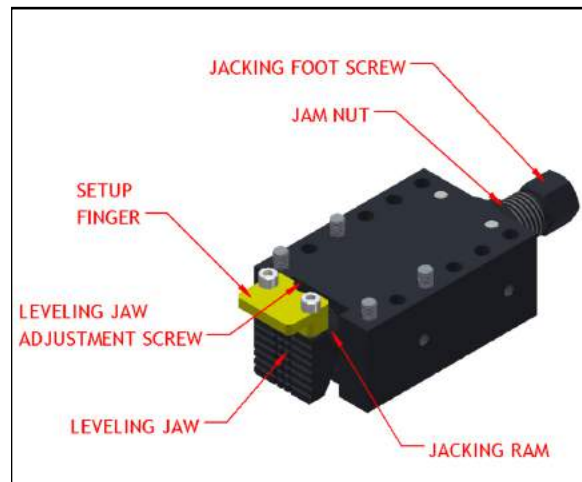

FIGURE 3-6. LEVELING FOOT COMPONENTS
5. Roughly adjust the leveling feet (one shown in Figure 3-6) by turning the jacking foot screw until approximately .125" (3 mm) larger than the flange OD.